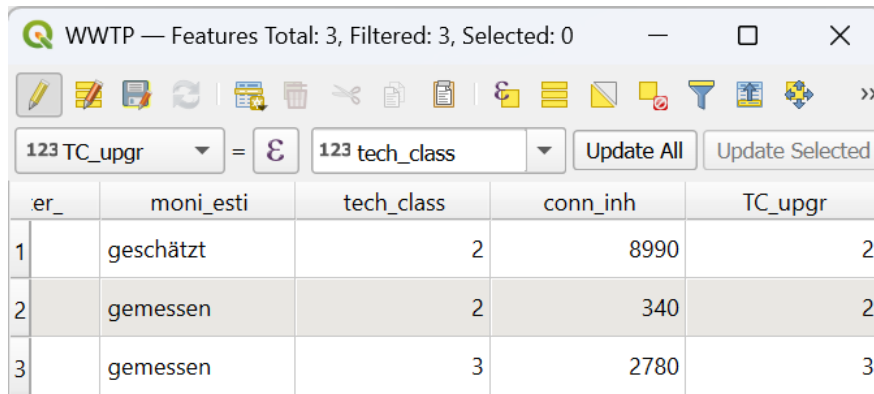

Figure 16. Populating the "TC\_upgr" field
- In the equation box, write “tech\_class” and click on “Update All” (Fig.16)